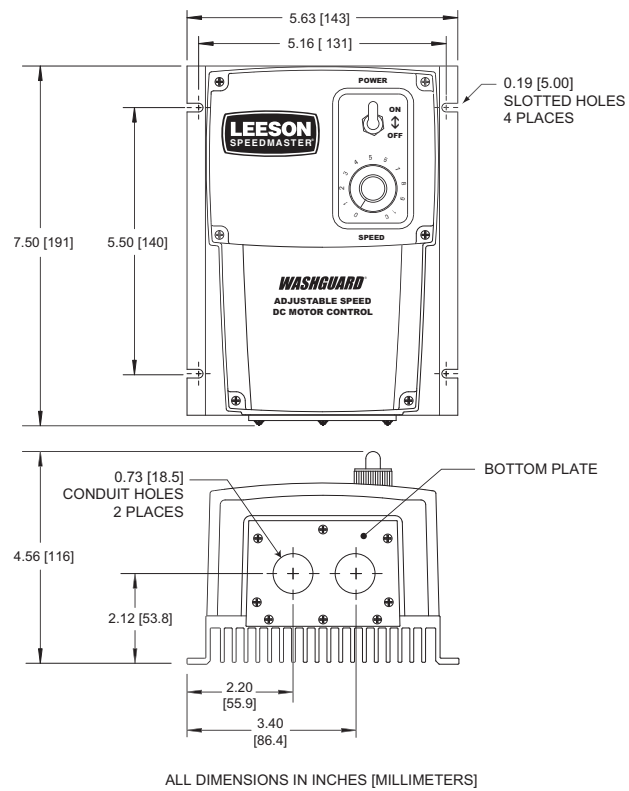

Figure 1. 174102, 174103 & 174107 Dimensional Diagrams
1. **Mount** the control using the 4 slotted holes on the heat sink. The slotted holes are 0.19 inches [5 mm] (see Figure 1).
174102, 174103 and 174107 drives may be vertically wall mounted using the four 0.19 inch (5 mm) slotted holes on the attached heat sink (see Figure 1, Page 2). For motor loads less than 5 ADC, the drive may be bench mounted horizontally, or operated without mounting.